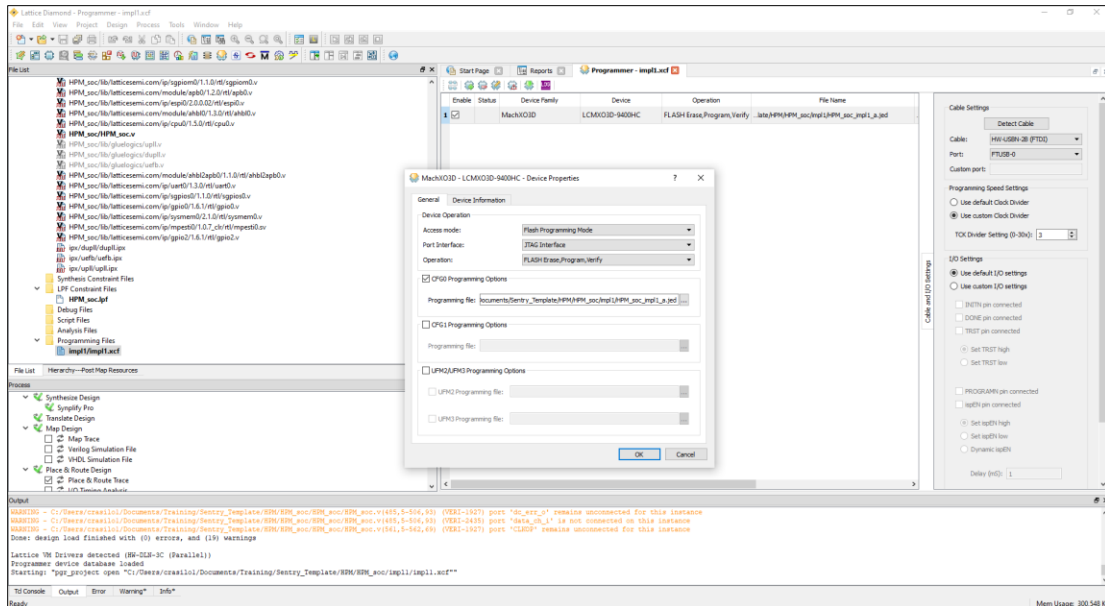
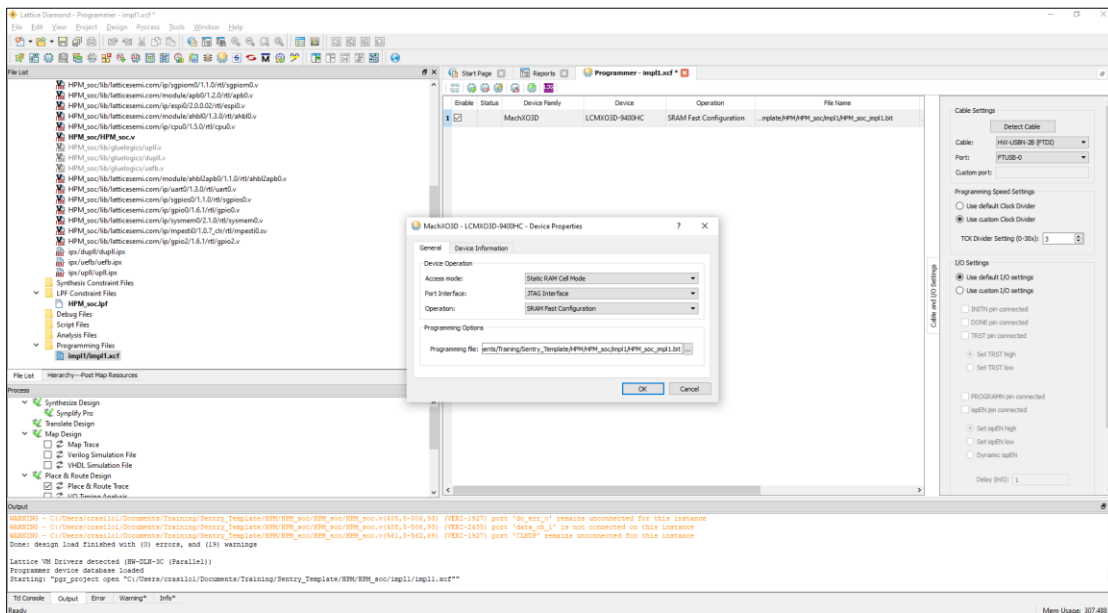

Figure 5.12. JED File Upload Using Flash Programming Mode (HPM)
Figure 5.13. BIT File Upload Using Static RAM Cell Mode (HPM)
3. Using Diamond Programmer, upload either the JED or BIT file using either Flash Programming Mode or Static RAM Cell Mode, as shown in Figure 5.12 and Figure 5.13 respectively. Note that the template comes with a pre-exported JED and BIT files. If any changes are made in the design, it is recommended that you export a new JED or BIT file.